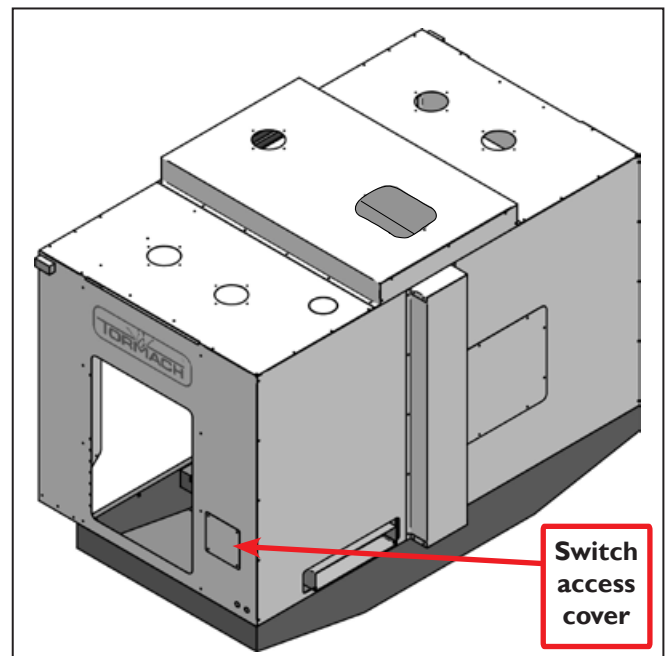

Figure 16
41. Place the Switch Access Cover (E.34) onto the right side panel (see **Figure 16**). Loosely fasten with (F) screws along the edges of the access panel.